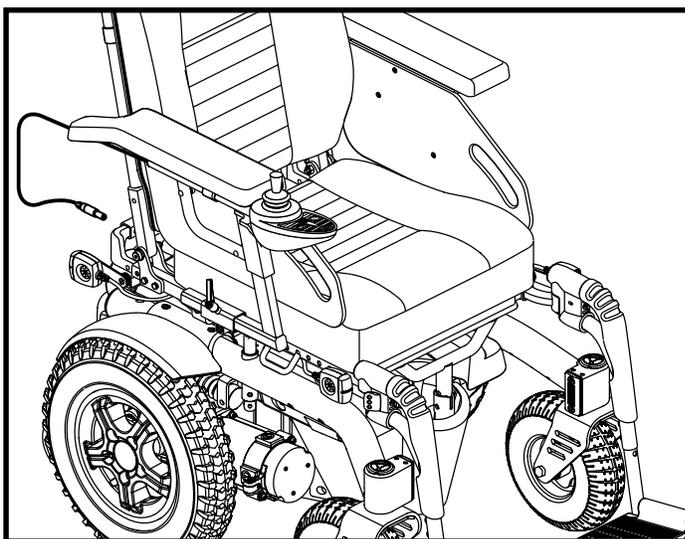

Figure 13. Controller Cable Routing (Rear Electrical System Shown)
6. Route the controller cable to the front or rear of the power base, depending on your chosen electrical system, ensuring the cable cannot be pinched in the seat hinge. See figure 13.